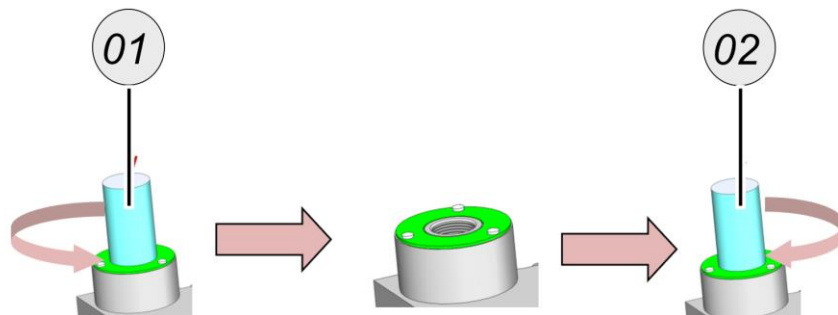

Fig. 2
- Rotate the O2 sensor to be submerged out of the sensor chamber (Fig.2 (1)).
- Turn the new O2 sensor into the sensor chamber (Fig.2 (2)).